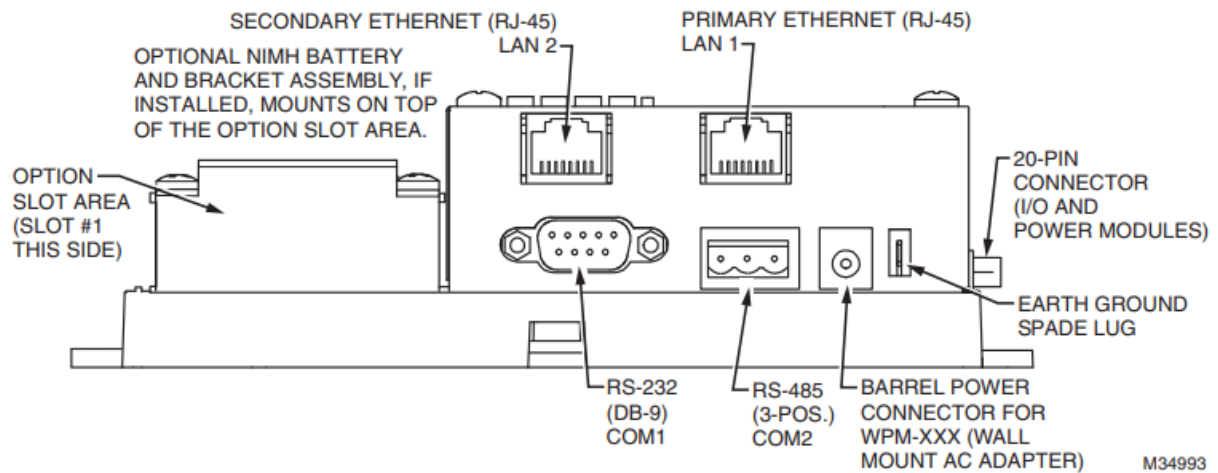

Fig. 6. WEB/CP 300E or WEB/CP 600E/U controller bottom side (cover removed).
- There are two "RS" serial ports on the controller's base board. Each has a UART capable of operation up to 115,200 baud. At the bottom of the board (see Fig. 6) is an RS-232 port using an DB-9 plug (male) connector. To the right of this is a two-wire plus shield RS-485 port, using a 3-position screw-terminal connector plug.